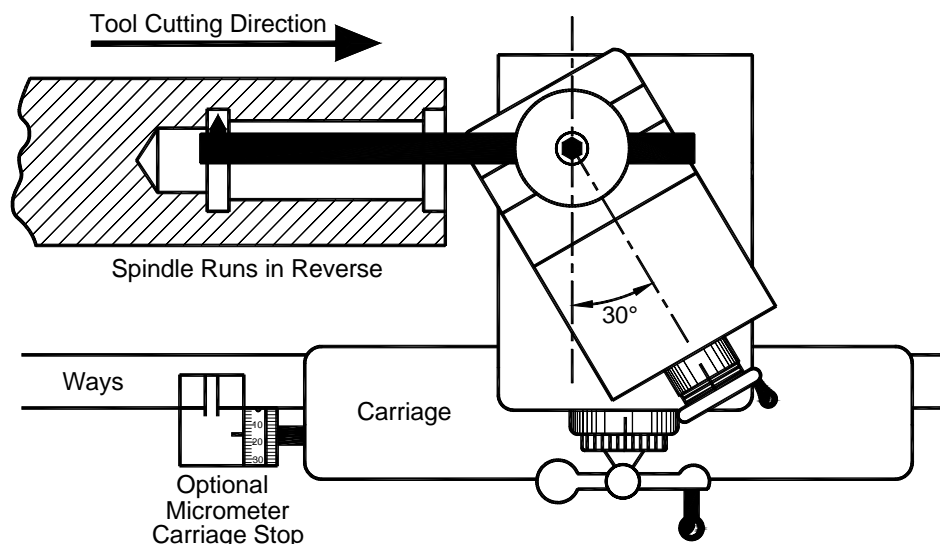

Figure 7–150. Setup for cutting internal threads starting from inside the work.
9. Observe the depth of the threads in the recessed starting area to determine when the threads are complete, Figure 7–148 (d). Check with a plug gage or the mating part.
When the operator cannot see the starting point of the threads, a *micrometer stop*, which clamps to the ways, provides an accurate starting point for positioning the carriage when using this method. See Figure 7–151.